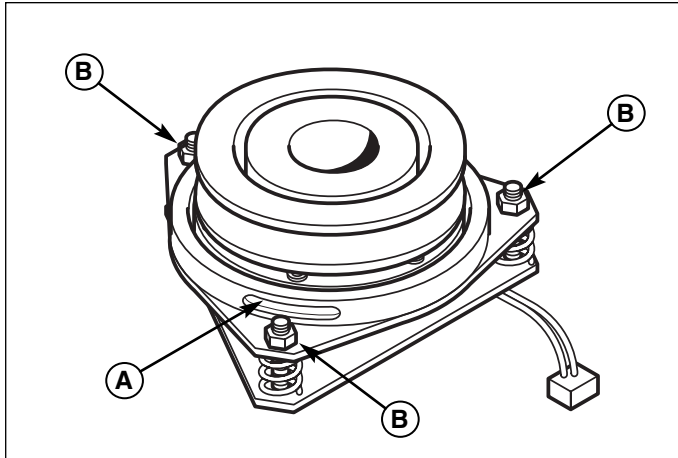

Figure 19. PTO Clutch Adjustment
- See Figure 19. Note the position of the 3 adjustment windows (A) in the side of the brake plate and the nylock adjustment nuts (B).
- Alternately tighten the adjustment nuts (B, Figure 19) until the rotor face and armature face just contacts the gauge.